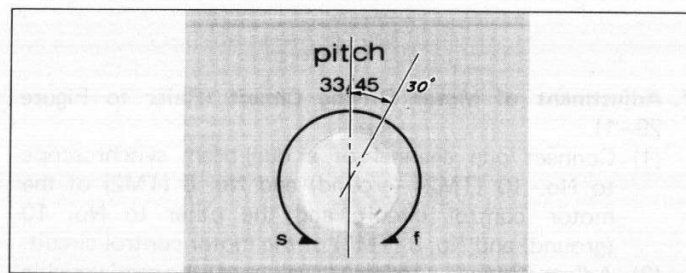

Figure 32-4 PITCH CONTROL
- (1) Set the "quartz" button off (i.e. Turn the indicator off).
- (2) Turn the power switch on.
- (3) As shown in Fig. 32-4, set the pitch control variable resistor VR301 at a position making an angle of 30 degrees (in the clockwise direction) with the mechanical center.
- (4) Push down the cue button to lift the tonearm up, then disengage the tonearm from the tonearm rest so the turntable starts turning.
- (5) Set the speed selector switch to the "33-1/3 rpm" position, then adjust the semi-variable resistor VR202 so that the pitch indication display indicates 0%.
- (6) Put the speed selector switch to the "45 rpm" position, then adjust the semi-variable resistor VR201 so that the pitch indication display shows 0%.
- (7) When fully varying the pitch control variable resistor VR301 from "S" to "F", the pitch indication display should change from -2% to +2%.